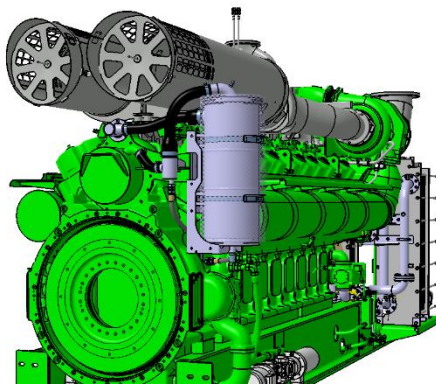

Figure 5: Generation 3 Light
The crankcase ventilation shown in Figure 5 represents Generation 3 Light of the Type 6 engine crankcase ventilation. This is a retrofit solution or modification for Generation 1 crankcase ventilation, in which the Generation 1 interchangeable filter has been replaced by a Generation 3 filter housing. This then subsequently allows the filter element to be replaced without having to remove or replace the filter housing. No preliminary separator is retrofitted, and the number of blow-by filters (1) remains unchanged. This solution is never used in new plants.